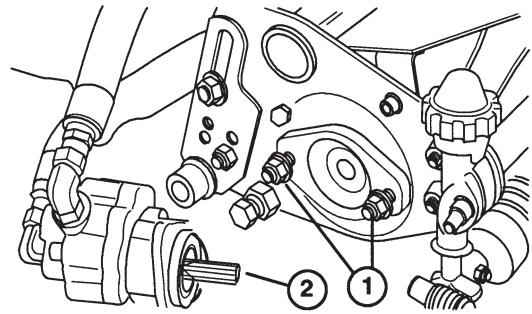

Figure 2
3. Assemble the mount nuts for the reel drive motor to each cutting unit. Leave approximately 1.2cm of threads exposed on each mount stud (Fig. 2).
4. Remove the protective covers from the cutting units and the reel drive motor shafts. Coat the spline shaft of the motor with clean grease and install the motor by turning the motor clockwise so the motor flanges clear the studs. Rotate the motor counterclockwise until the flanges encircle the studs, then tighten the mounting nuts (Fig. 2).